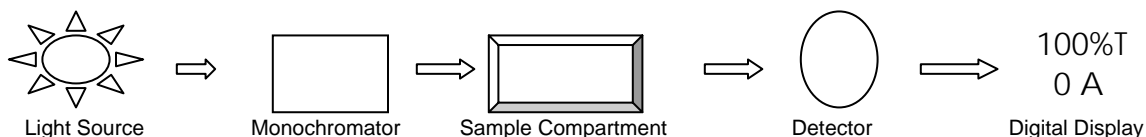

Figure-1 Block Diagram for the Spectrophotometer
- 5) **A Digital Display** to show absorbance or transmittance. Figure-1 illustrates the relationship between these parts.